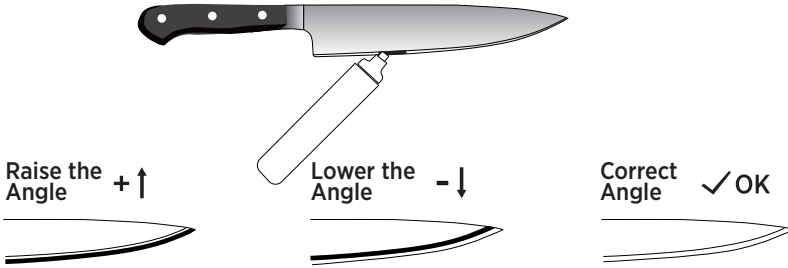

Fig. 11
Apply a marker to the cutting edge. Turn the angle adjustment knob to move the support bar up or down as needed and gently sharpen the edge. When the marker is completely removed, revealing a clean edge (See Fig. 11), the angle value on the scale (A or B) indicates the correct sharpening angle.
3. Turn the angle lock knob to move the support bar up or down as needed and gently sharpen the cutting edge. When the marker on the blade is fully removed, revealing a clean edge (See Fig. 11).